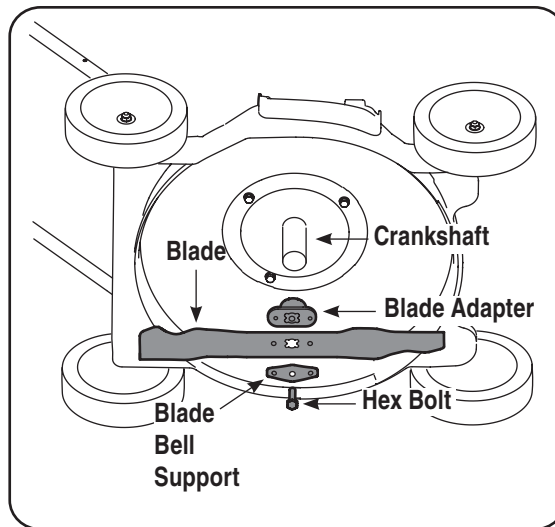

Figure 5-2
2. Remove the bolt and the blade bell support which hold the blade and the blade adapter to the engine crankshaft. See Figure 5-2.